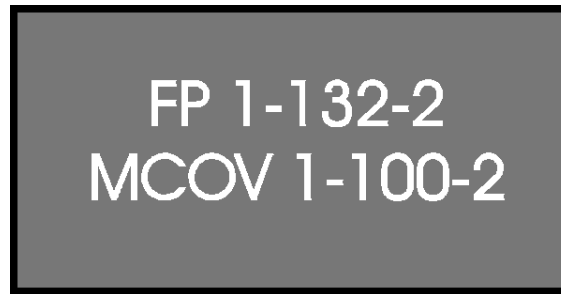

Figure 10-4; Fire Stations/Plugs
- (1) Decontamination station entrance, exit, and route signs shall be no less than 12 inches in length, and no less than 3-1/2 inches in height.
- (2) The "D" shall be no less than 3 inches in height, shall be green in color and be bordered inside and out with a black 1/8 inch border.
- (3) The arrows on the route markers shall be green, no less than 1 inch in height and bordered by a 1/8 inch black border.
- (4) The "STA" on the entrance and exit signs shall be no less than 1/2 inch in height and shall be black.
- (5) The divider between the "D" on the entrance and exit sign shall be black in color and 3/8 inch wide.
- (6) The "ENTRANCE" and "EXIT" shall be no less than 2 inches in height and shall be black in color.
- i. Interior And Exterior Fire Stations/Plugs. The bulkhead immediately above all fire stations shall be marked with 1 in. white letters on a suitable sized red background as per Figure 10-4. In lieu of the aforementioned marking scheme, interior bulkheads may be marked with 1 inch red retro-reflective lettering with a suitable sized photoluminescent background. However, exterior bulkheads shall not be marked with photoluminescence.
- (1) The exit sign background shall be made of photoluminescent material 6 inches in height and 8 inches in length.
- (2) The arrow shall be black in color, approximately 6 inches in length and 3 inches in height. The arrow shall be placed on the background as shown in Figure 10-4.
- (3) The word EXIT shall be made of 1 1/2 inch or 2 inch photoluminescent material.
- (4) Exit signs/arrows are both right and left-handed. The arrow in Figure 10-4 is a right-handed directional arrow.